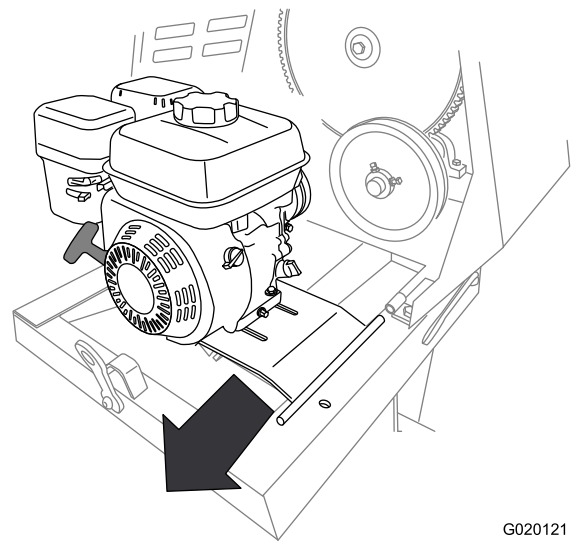

Figure 50
10. Remove the engine and engine deck from the machine (Figure 50).
9. Slide the engine deck rearward and out from the forward hinge bracket (Figure 50).
2. Align the pivot on the engine deck with the forward hinge bracket (Figure 50).
3. Slide the engine deck forward and the pivot into the forward hinge bracket (Figure 50).
4. Align the rear hinge bracket with the pivot on the engine-deck hinge (Figure 50).